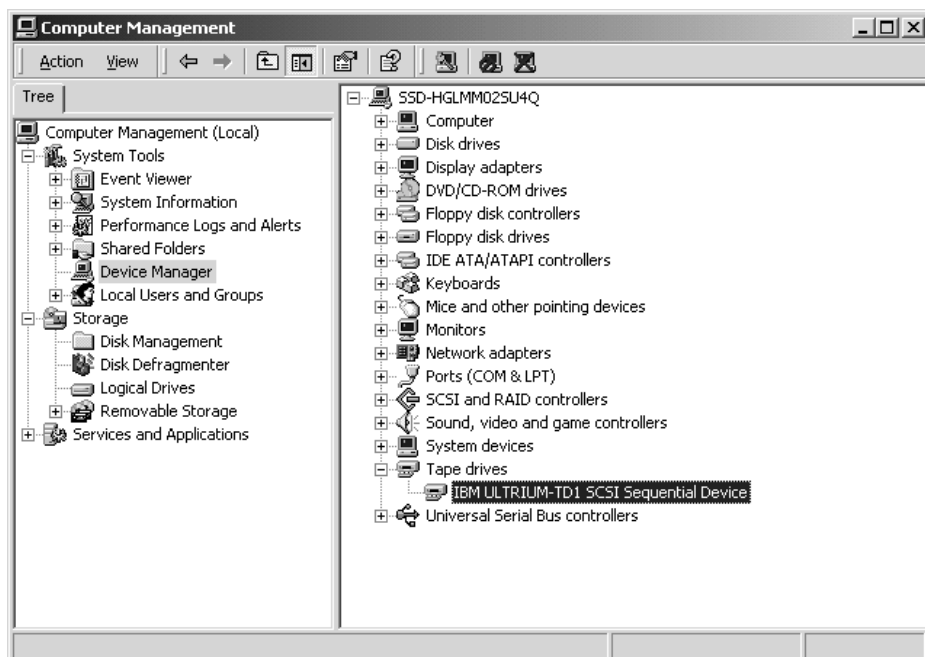

Figure 35. Drive and Changer Menu
17. Verify that the Ultrium devices are working properly when the device driver is enabled. The Ultrium devices should be listed under either **Tape drives** or **Medium changers**. See Figure 35.